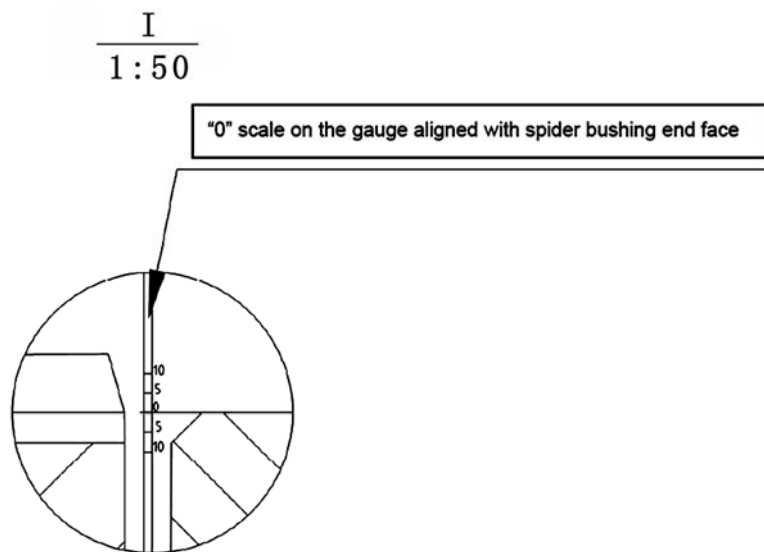

Fig.9-9 Partial enlarged drawing
- 2. When the spider bushing horizontal plane keep aligning with the location belowed of gauge is the position of min. gap between spider bushing and main shaft (as indicated in figure 9-9).